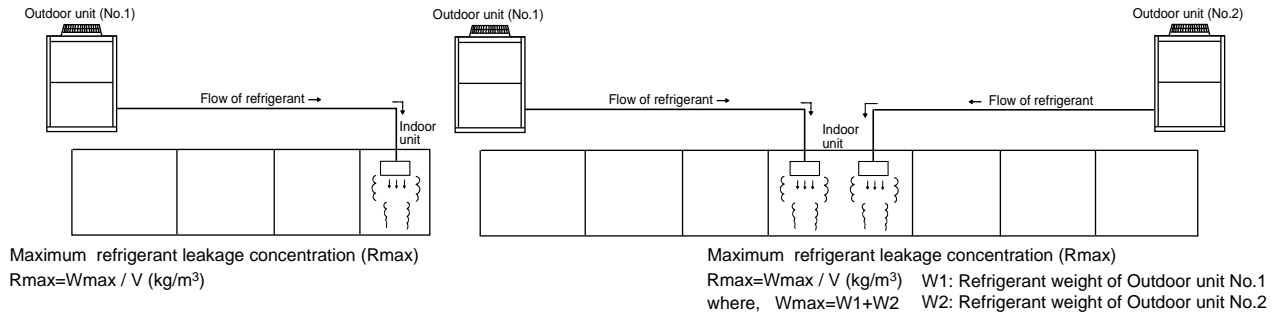

Fig. 8-1 The maximum refrigerant leakage concentration
(2) Confirm the Critical concentration and take countermeasure
The maximum refrigerant leakage concentration (R_{max}) is defined as the result of the possible maximum refrigerant weight (W_{max}) leaked into a room divided by its room capacity (V). It is referable to Fig. 8-1. The refrigerant of Outdoor unit here includes its original charge and additional charge at the site.